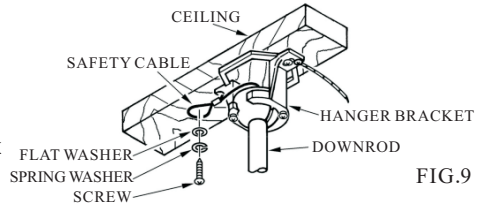

FIG.9
- Install the safety cable into the building structure. (See fig.9)